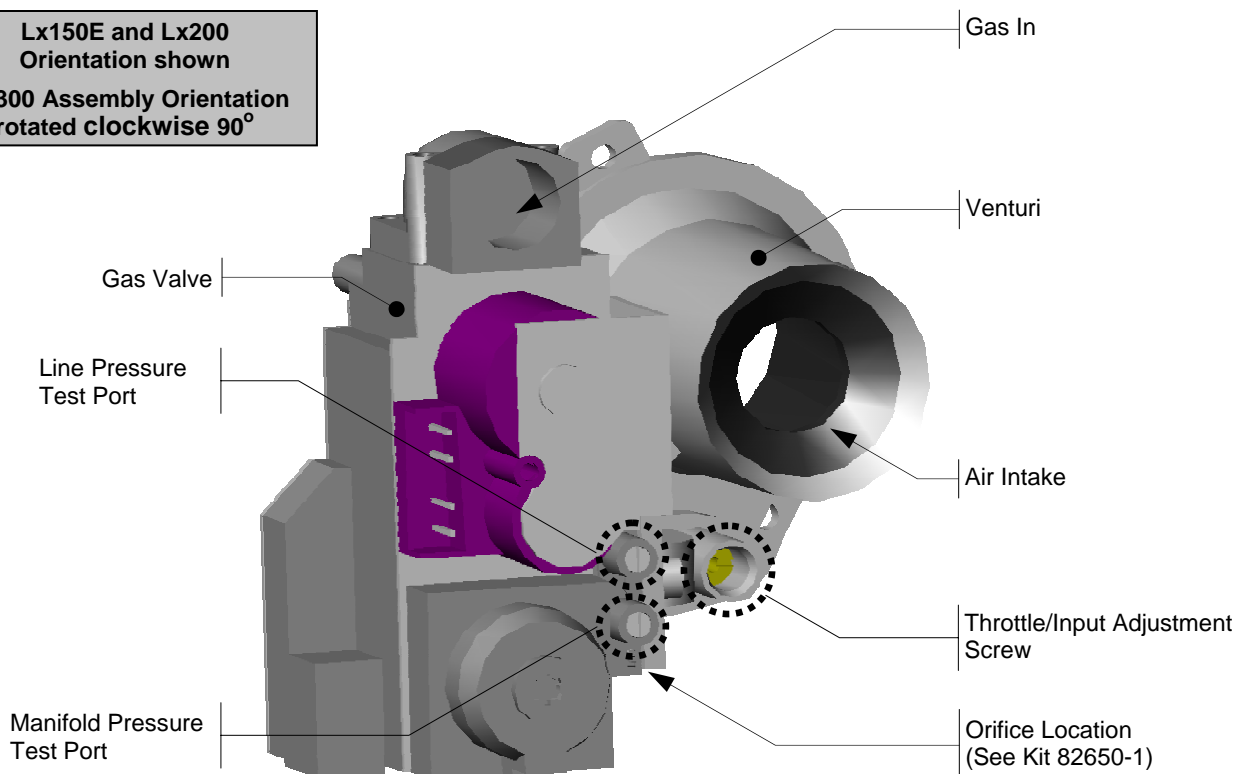

Figure 9-3 Lx400 Gas Valve and Venturi Assembly
**Lx400 Adjustments** - The throttle screw for the Lx400 is a geared valve with a 4:1 ratio. Adjusting the throttle screw 4 complete turns will return the valve to the original location, 2 turns from fully open will completely close the valve. Typical adjustment required is 0-1/4 turn in or out from the factory setting. See Figure 9-3 for throttle screw location.